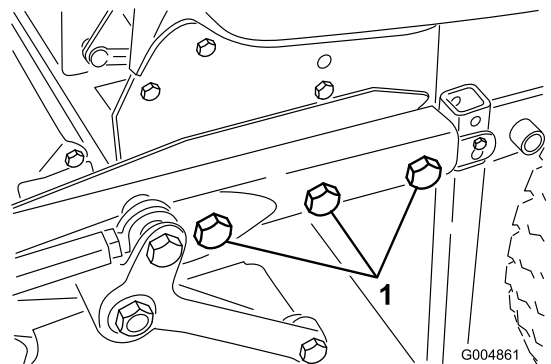

Figure 25
4. Roll the summer deck and frame into position and install the five 3/4" bolts, washers and nuts that connect the deck frame to the rear frame (Figure 25). Remove the lift cylinder pins to gain access to the bolts on the right hand side. Torque the bolts to 265 foot pounds.